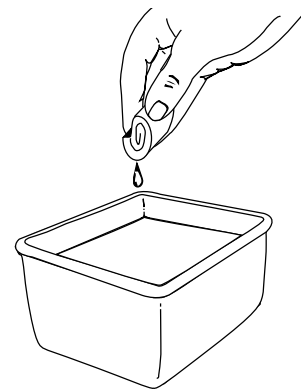

Fig. 35
3. Wash the filter in detergent and water (Fig. 35). Rinse the filter thoroughly. Squeeze out excess water. Allow it to dry completely.